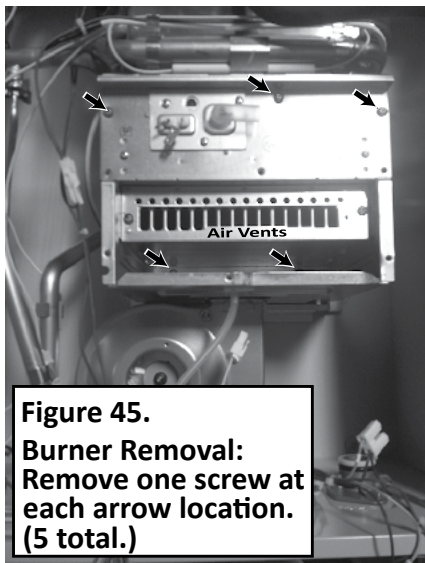

Figure 45.
are difficult to remove, lift the burner while turning the screws. (See Figure 45.)
- 6.3.1 Grasp an oval air vent on either side of the burner with a pair of pliers. (See “Air Vents” in Figure 45.)
- 2.1 Insert and hand tighten two screws below the burner, at the back (Figure 45). These screws will secure to the back of the cabinet. You may need to push the assembly up some in order to line up the holes.
- 2.2 Insert three screws along the top portion of the burner, then hand tighten them. See Figure 45.
3. Install the manifold plate/gas valve assembly (item 102, p. 73) to the combustion chamber as follows: